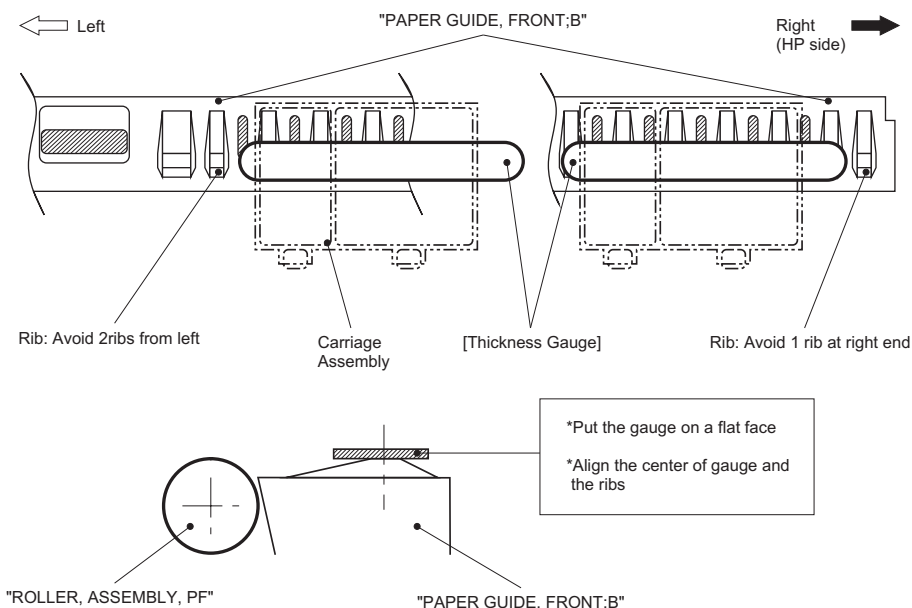

Figure 5-1. Paper Gap Adjustment
3. Move the carriage to the center and set the thickness gauge (1.14mm thick) on the fixed position of "Paper Guide, Front;B" as you can see in the figure 5-1.